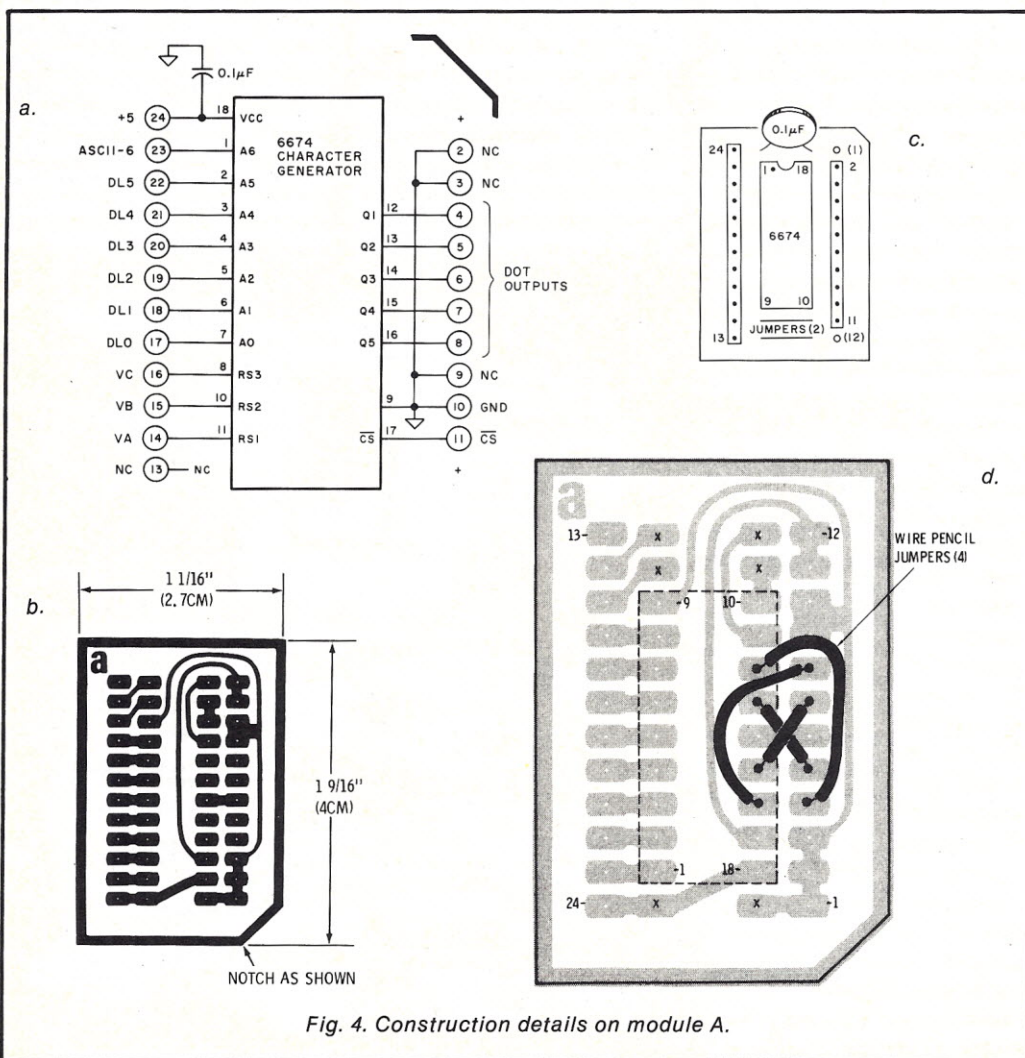

Fig. 4. Construction details on module A.
Fig. 4 repeats the details of the TVT module A from the *Cheap Video Cookbook* (Sams 21524). We have changed the callouts around to match the Apple's and have eliminated pins 1 and 12 from the module to eliminate the supply-short-ing problem.
Carefully study the foil side in Fig. 4 and add the following four wire-pencil connections to the foil side:
- 1 TVT module A lowercase plug-in with floating pins 1 and 12 (Fig. 4).